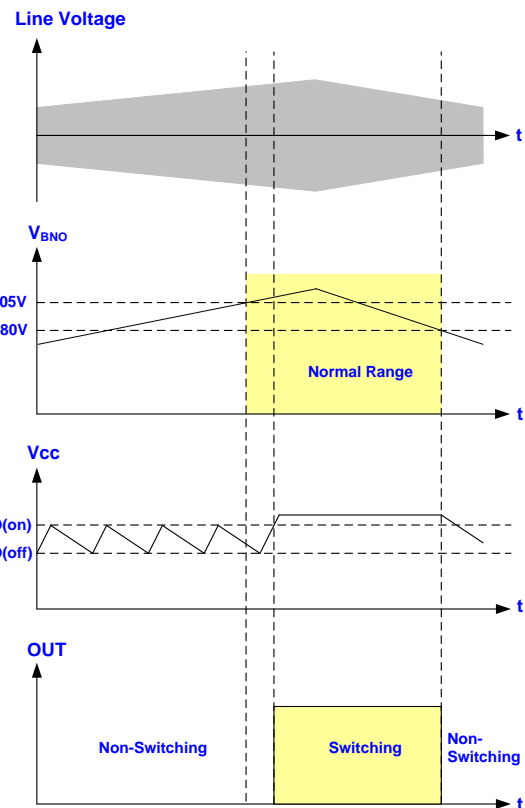

Fig. 20
The LD7537S is programmable to set the brownout protection point through BNO pin. The voltage across the BNO pin is proportional to the bulk capacitor voltage, referred as the line voltage. A brownout comparator is implemented to detect the abnormal line condition. As soon as the condition is detected, it will shut down the controller to prevent the damage. Figure 20 shows the operation. When VBNO falls below 0.80V, the gate output will remain off even Vcc has already achieved UVLO(ON). It therefore makes Vcc hiccup between UVLO(ON) and UVLO(OFF). Unless the line voltage is enough to pull VBNO larger than 1.05V, the gate output will not start switching even when the next UVLO(ON) is tripped. A hysteresis is implemented to prevent the false trigger during turn-on and turn-off. Figure 20 shows the circuit.